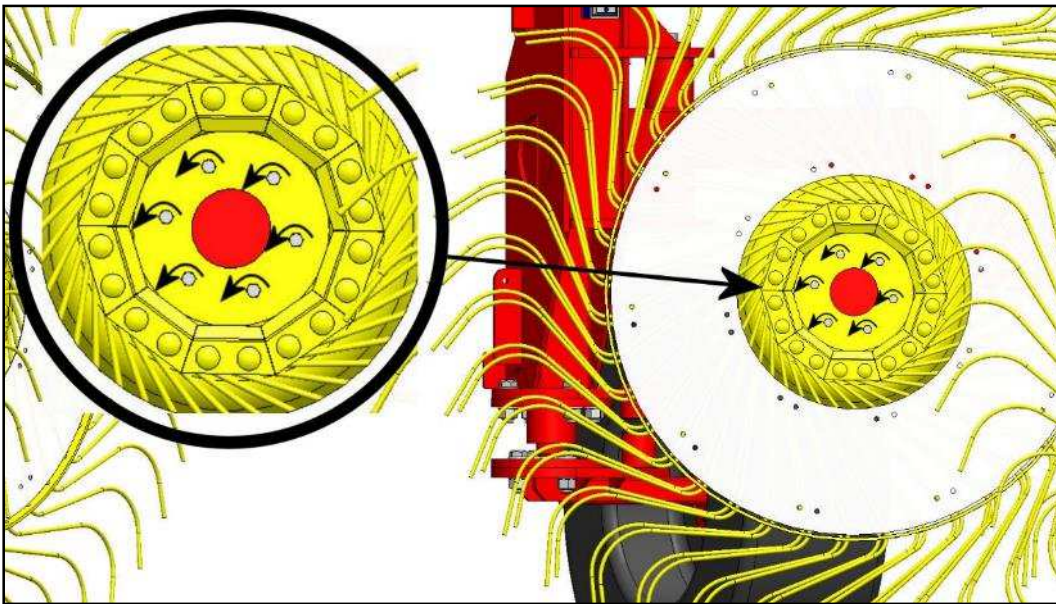

Figure 28
- With the help of a colleague, unscrew the central screws that secure the front star wheel to the connection bracket (see *Figure 28*).